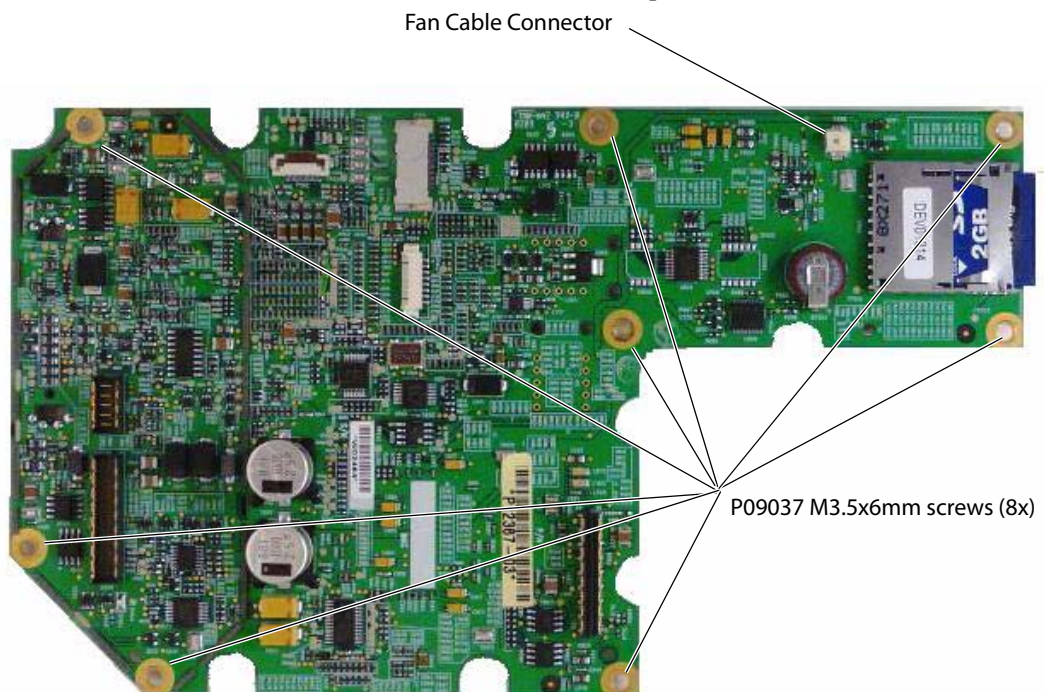

Figure 4.6 Back End PCB Replacement
- 4 Disconnect the Fan cable from the Back End PCB as shown in Figure 4.6.
- 5 Remove the eight screws as shown in Figure 4.6.
- 4 Reconnect the fan cable to the Back End PCB as shown in Figure 4.6.